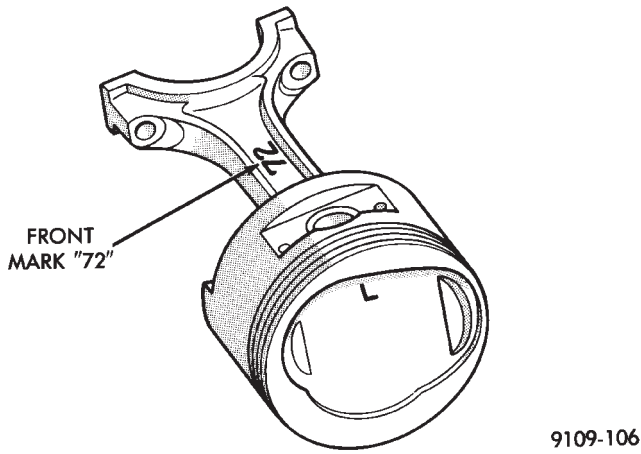

Fig. 14 Identify Piston/Rod Assembly for Cylinder Installation
(7) Connecting rod front mark 72 must always face forward, toward timing belt end. (Fig. 14)
(8) Install the piston and connecting rod assembly into their respective bore from the cylinder block top.